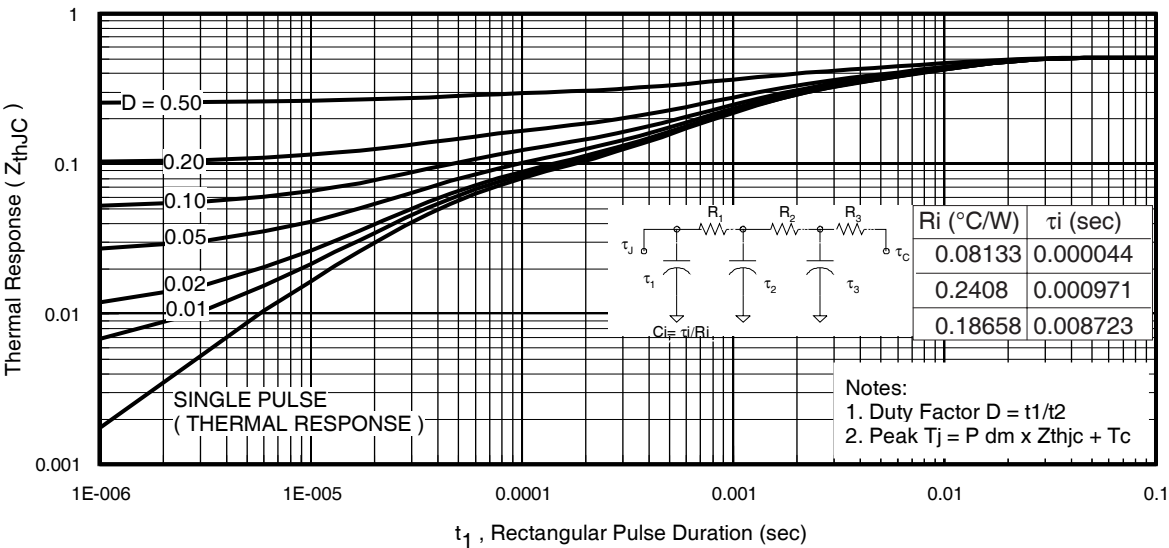
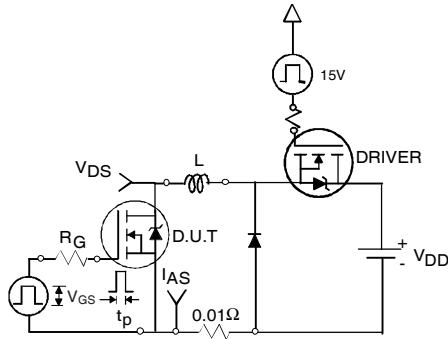

Fig 11. Maximum Effective Transient Thermal Impedance, Junction-to-Case
Fig 12a. Unclamped Inductive Test Circuit
- ① Repetitive rating; pulse width limited by max. junction temperature. (See fig. 11).
- ② Limited by T_{Jmax} ; starting $T_J = 25^\circ\text{C}$, $L = 0.10mH$, $R_G = 25\Omega$, $I_{AS} = 75A$, $V_{GS} = 10V$. Part not recommended for use above this value.
- ③ Pulse width $\leq 1.0ms$; duty cycle $\leq 2\%$.
- ④ $C_{oss \text{ eff.}}$ is a fixed capacitance that gives the same charging time as C_{oss} while V_{DS} is rising from 0 to 80% V_{DSS} .
- ⑤ Limited by T_{Jmax} , see Fig.12a, 12b, 15, 16 for typical repetitive avalanche performance.
- ⑥ This value determined from sample failure population. 100% tested to this value in production.
- ⑦ This is only applied to TO-220AB package.
- ⑧ R_θ is measured at T_J approximately 90°C
3. Equation below based on circuit and waveforms shown in Figures 12a, 12b.
$Z_{thJC}(D, t_{av})$ = Transient thermal resistance, see figure 11)